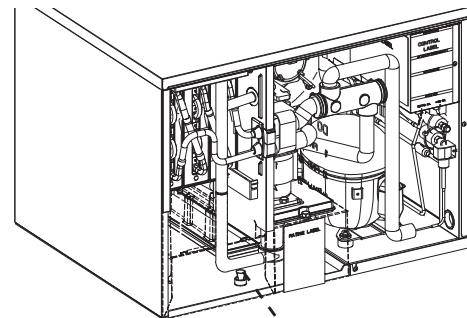

Fig. 23
- 2) Remove the front insulation panel, then remove the water tank drain plug located in the bottom of the water tank. See Fig. 23. Allow the water tank to drain.